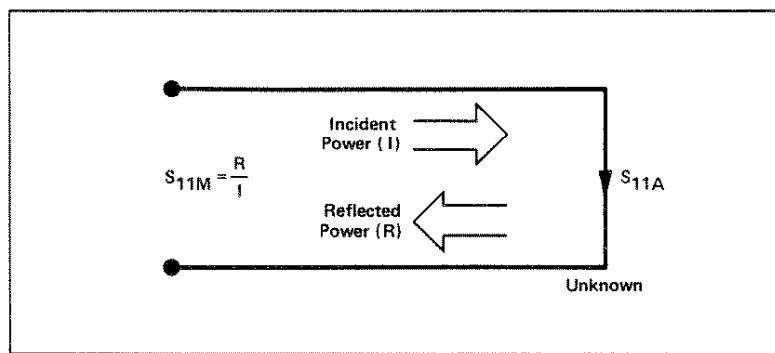

Figure 5-33
The reflection coefficient is measured by first separating the incident signal (I) from the reflected signal (R), then taking the ratio of the two values (Figure 5-33). Ideally, (R) consists only of the signal reflected by the test device ($S11A$).